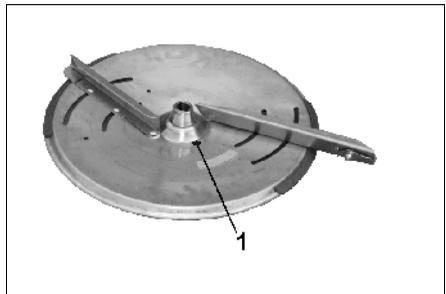

Fig. 54
- Turn the spreading disc until the disc hole  $\varnothing$  8 mm faces to the implement centre. (Fig. 54/1).